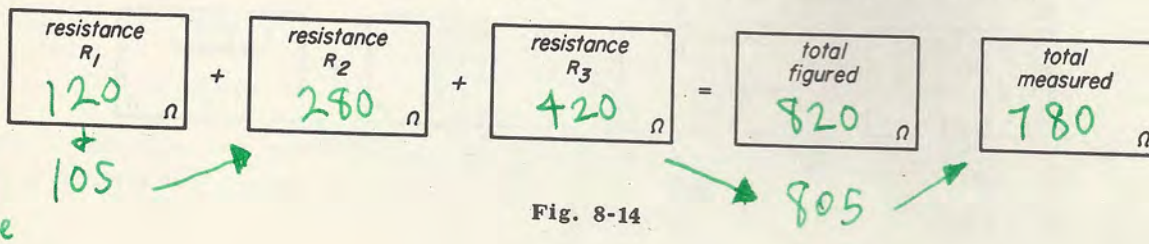

Fig. 8-14
Step 2. Measure R_1 and record the resistance value in the first box of Fig. 8-14.
Step 3. Measure and record the value of resistor R_2 and place it in the second box of Fig. 8-14.
Step 4. Measure and record the value of R_3 in the third box of Fig. 8-14.
Step 5. Add these three values together and record the sum in the fourth box of Fig. 8-14.
Step 6. Measure the total resistance of R_1 , R_2 , and R_3 in series by placing one prod on the free end of R_1 and the other on the free end of R_3 . Record this value in the fifth box of Fig. 8-14. The value of resistance recorded in the fourth box should equal the value of resistance recorded in the fifth box. They may vary a little, of course.